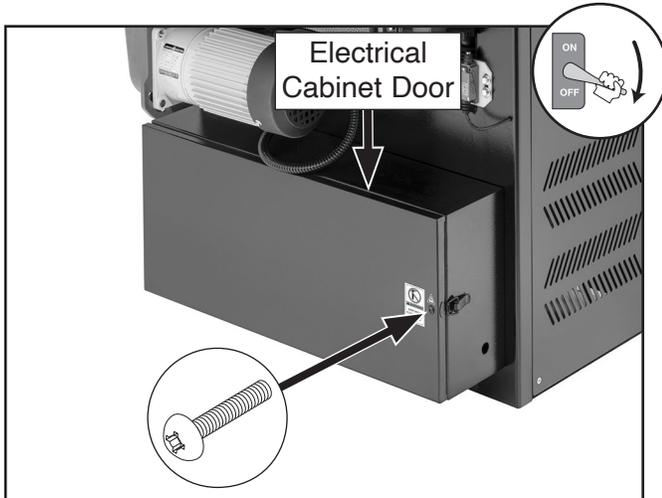

Figure 26. Location of electrical cabinet door and screw.
2. Remove Phillips head screw shown in **Figure 26**, then open electrical cabinet door.